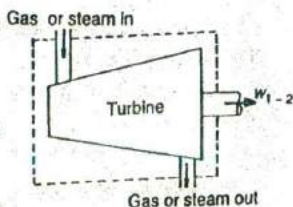

Fig. 3.33. Turbine.
5. **Turbine.** A turbine, as shown in Fig. 3.33, is a device which converts energy of the working substance (gas or steam) into work in the turbine. The turbine is insulated so that there is no transfer of heat (i.e. $q_{1-2} = 0$). In other words, the flow through a turbine is considered adiabatic.